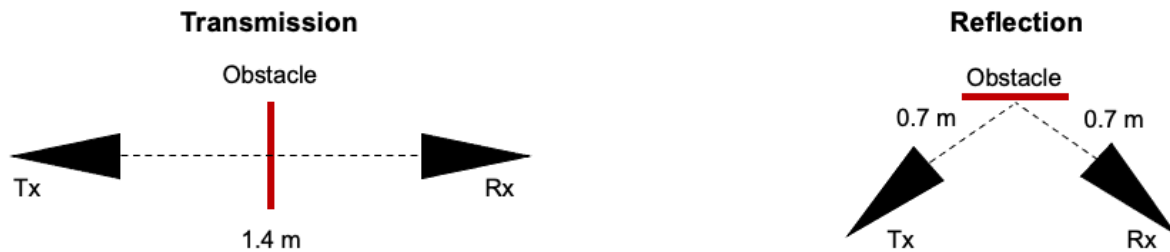

Figure 1: Transmission and reflection scenarios utilized to characterize the response of different materials.
- We measure the response of a material in two different setups (see Figure 1):